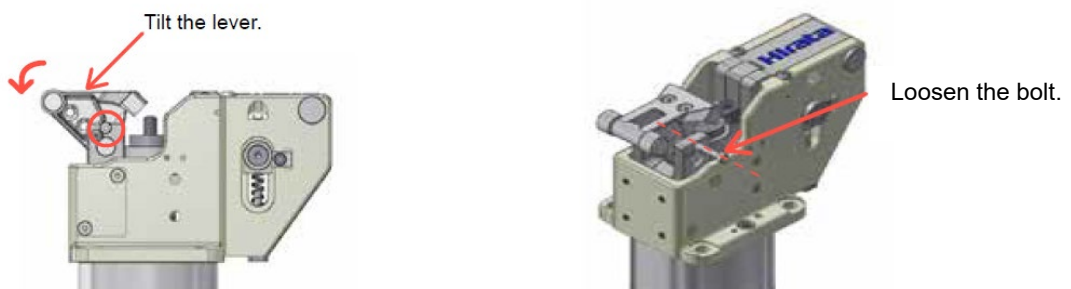

Fig. 3.9 Method to Secure the Lever
1. Tilt the lever as shown in Fig. 3.9.
2. Align the hole on the lever support with the hole inside the lever and secure them with (1) M3 bolt (EST32) or (1) M4 bolt (EST50 and 80).